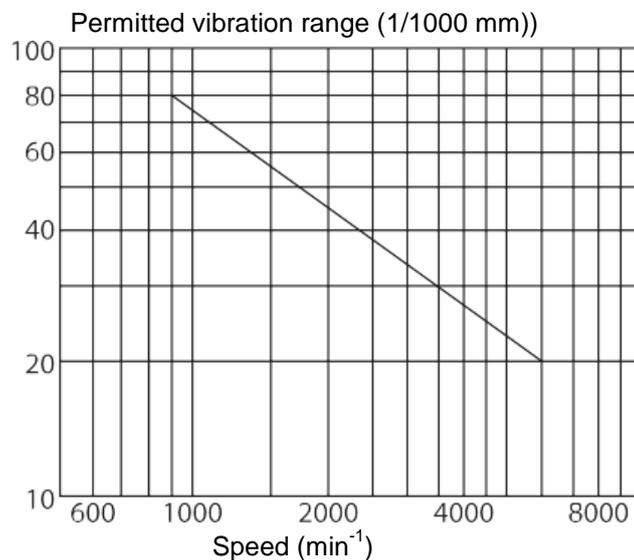

Fig.5 Vibration standard
- (2) For standard specification, allowable operating temperature of bearing is no more than Room temperature + 40°C, and no more than 80°C.
- (3) There should be almost no leakage if the mechanical seal is normal. If there is a large amount of leakage, replace the mechanical seal.
- (4) Normally, there should be almost no leakage for a mechanical seal. However, at the beginning of operating of pump, a little water leakage from a mechanical seal is recognized. As the pump is operating for a while, the water leakage would be decremented, otherwise you should stop the pump and check it. During daily inspection, losing the bolts of the protector. Do not remove the bolt of the protector. It may cause bolts to be lost.
- (5) For gland packing specification, make sure the water leakage value is moderate according to **Table 2**. and preventing over tightening and uneven tightening gland packing. If the water leakage value could not be adjusted, there might be a deterioration occurring at shaft seal parts. Therefore, it is necessary to exchange gland packing or both gland packing and shaft, and then adjusting the water leakage.
- (6) Standard value of vibrations for when the pump is installed correctly, and piping work has been performed correctly are shown in **Fig.5**. Wrong piping work can often cause excessive vibrations.